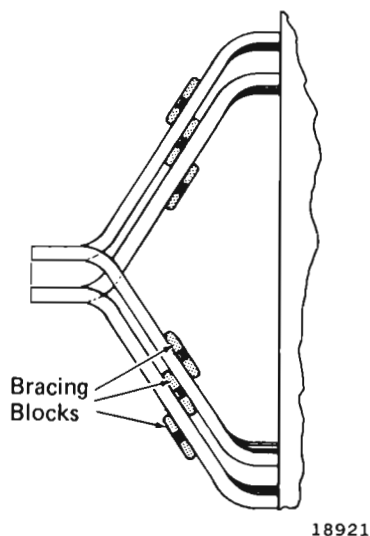

Fig. 2 - Coil Bracing Blocks
1. Insert bracing blocks midway in the upper and lower diamond sections between adjacent coils at each end of coil so the openings are facing radially inward on the upper diamond sections, and outward on the lower diamond sections, Fig. 2. Use the three thicknesses of bracing blocks in the proper combination to wedge coils tightly without causing distortion.